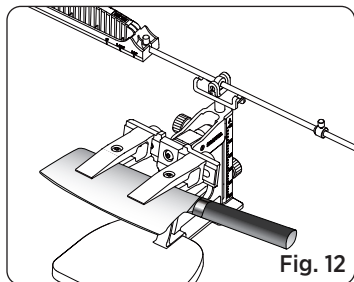

Fig. 12
1. Securely position the blade as deeply as possible within the clamp. (See Fig. 12).